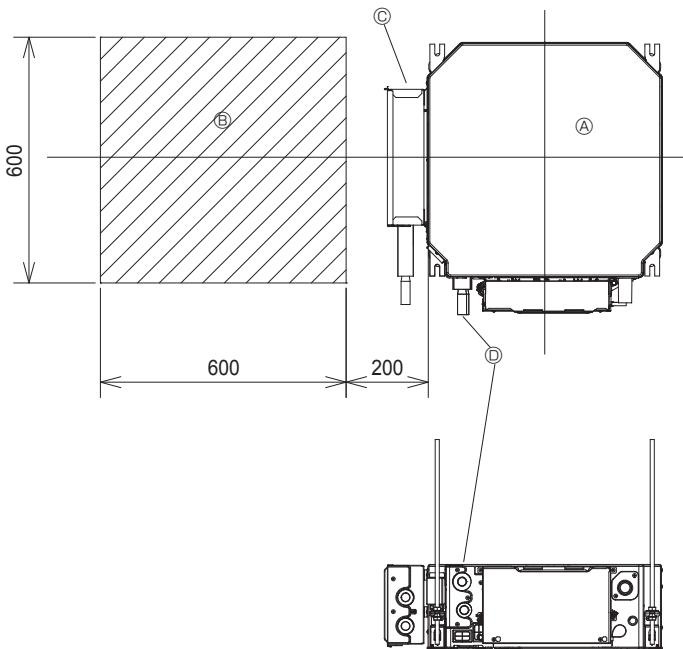

Fig. 4-8
4.5.1. Pre-installation preparation for the optional VALVE KIT (Fig. 4-8)